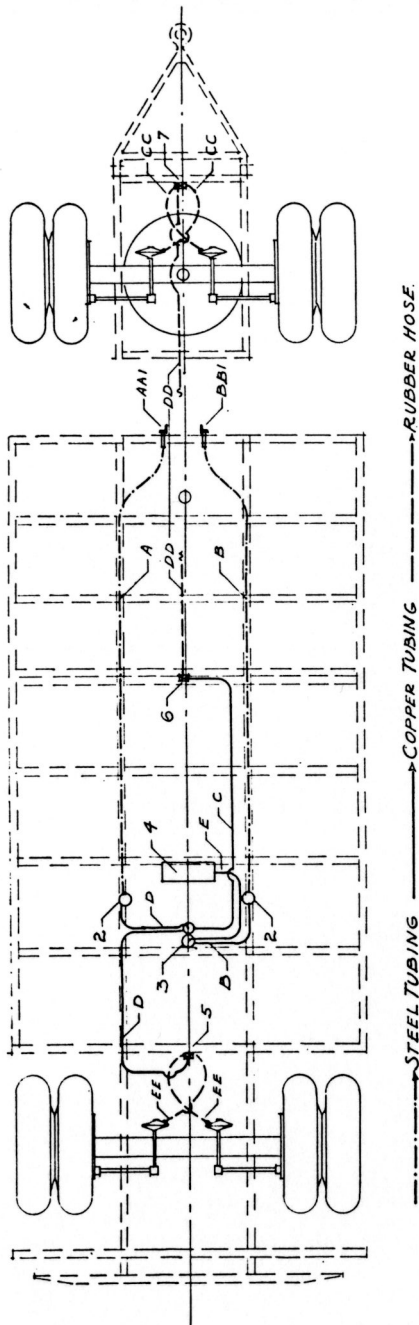

Fig. 4. Brake operation system
### 12 Brake Adjustment and Repair (Figs. 4 and 5)
(3) If the worm is in good condition, remove the lock ring and shield from the side of the slack adjuster, and inspect the felt and the worm gear. Replace any defective parts.
(4) If the slack adjuster needs to be rebushed, drive out the old bushing and insert a new one. Be sure that it is reamed to  $\frac{1}{2}$ -inch inside diameter.
*g. Brake Operation System.* Assuming the air pressure is normal (60 pounds or slightly over), if the brakes fail to function satisfactorily, the source of trouble may be found in the relay emergency valve. If this condition occurs, it is best to remove the emergency valve and replace it with a new one, or a rebuilt unit. Field repairs should not be attempted on the unit unless the emergency is great. If the emergency valve is functioning properly, the brake chamber rods should be checked to be sure that they are delivering a full stroke to the slack adjuster. If they fail to do so, they should be serviced or replaced. It is always good practice while checking for brake faults, to be sure that all brakes are adjusted properly at the adjustment nut on the slack adjuster. (See Fig. 4.)